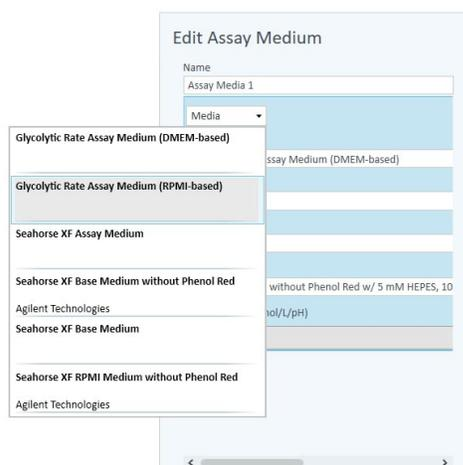

Figure 2. Assay medium media menu
- To select the assay medium, use the **Media** catalog drop-down menu. (See Figure 2.)